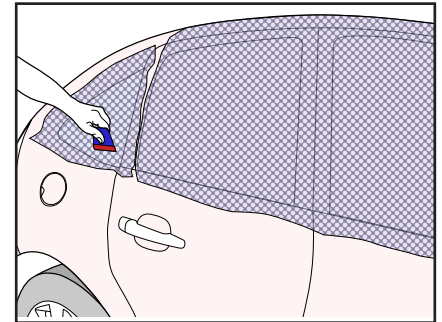

Figure 25
- › Stretch and apply the micro-perforated film over the entire pane up to its edges and in the corners. (FIG. 25)